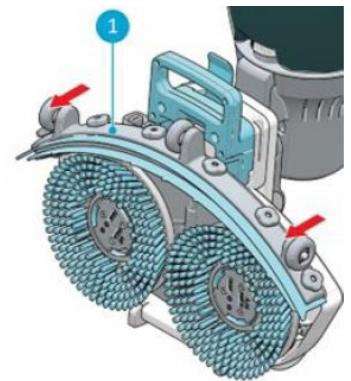

Fig.17
3. Pull on the left side of the squeegee (Figure 17, pos 1) to remove it.